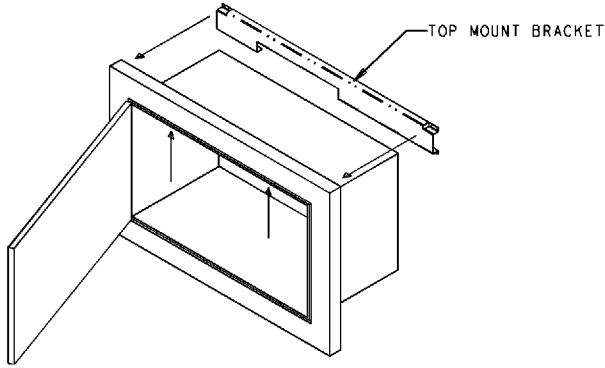

FIGURE 1
- Before installing unit into the cabinet, open microwave door, remove the two upper screws in the trim kit holding the top mounting bracket (see **figure 1** next page) and set the bracket and screws to the side.
- Locate and mark screw holes (A) at both ends, 2 each side, of template.